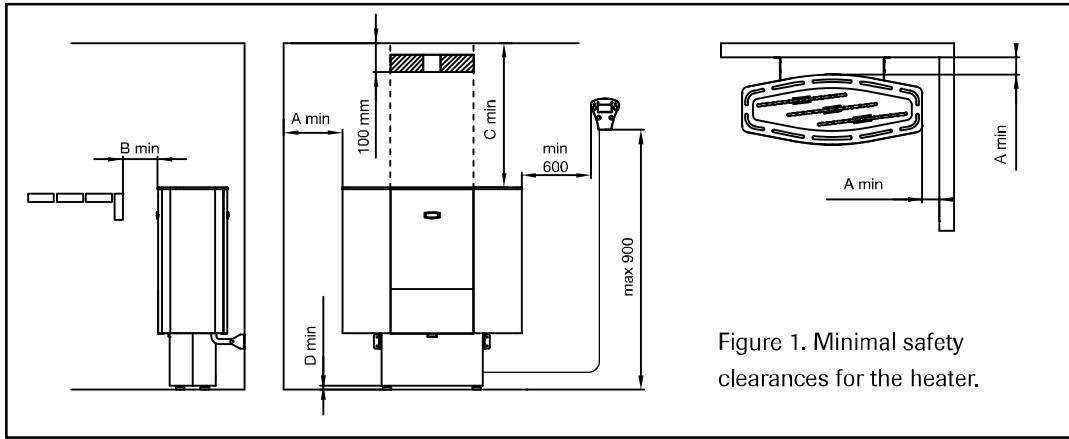

Figure 1. Minimal safety clearances for the heater.
**) See figure 1
- Install the sensor in the area lined in Figure 1; 100 mm from the ceiling.
- The installation height of the control unit is a maximum of 90 cm and a minimum of 60 cm from the side of the heater (see Fig. 1).